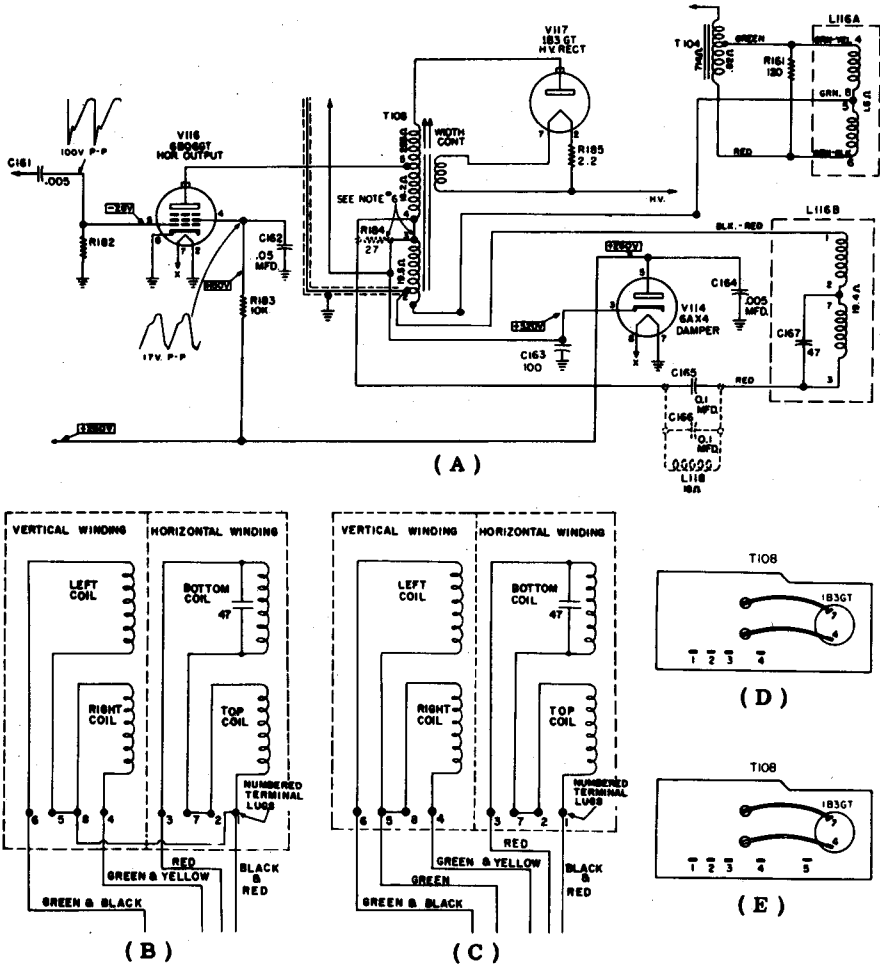

Fig. 31 - Crosley
**Improvement of horizontal linearity (see Fig. 31).**